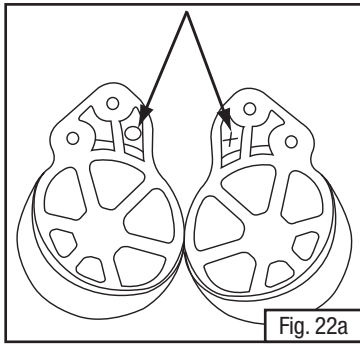

Fig. 22a
- Inspect the black plastic earmuff mounts and locate the "X" and "O" molded into the plastic. There is a left side and right side mount (earmuff). As worn, the mount with the "X" on it should be on the right side of the headgear and the mount marked with an "O" should be on the left side (i.e. "X" on the right, "O" on the left). Fig. 22a depicts the location of the "X" and "O" markings on the mount.